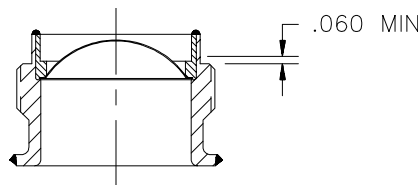

Figure 501. Minimum Neck Height
- A. Measure the neck for a minimum height of 0.060 inch (0.152 cm) to let you install a new disc correctly. Reject containers with less than the minimum permitted height. See Figure 501.